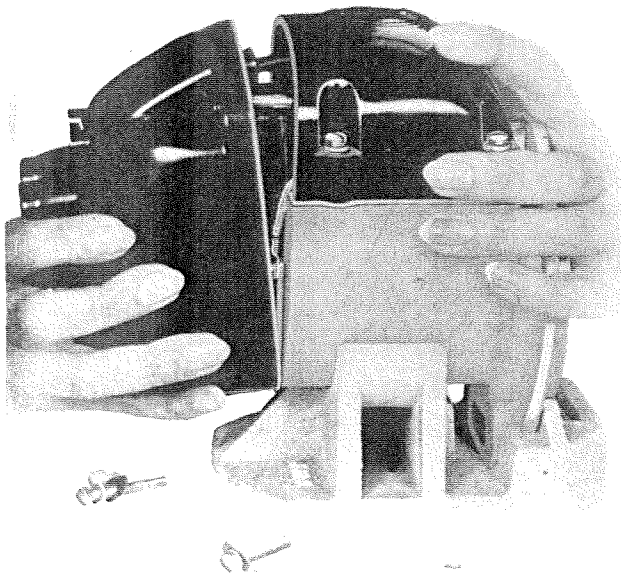

Figure 13. Removing or Replacing Distributor Cap
2. Put the distributor cap back into place, Figure 13.
1. If tests made in previous paragraphs show the magneto to be dead, replace the distributor cap with a new one, Figure 13. Repeat the test.